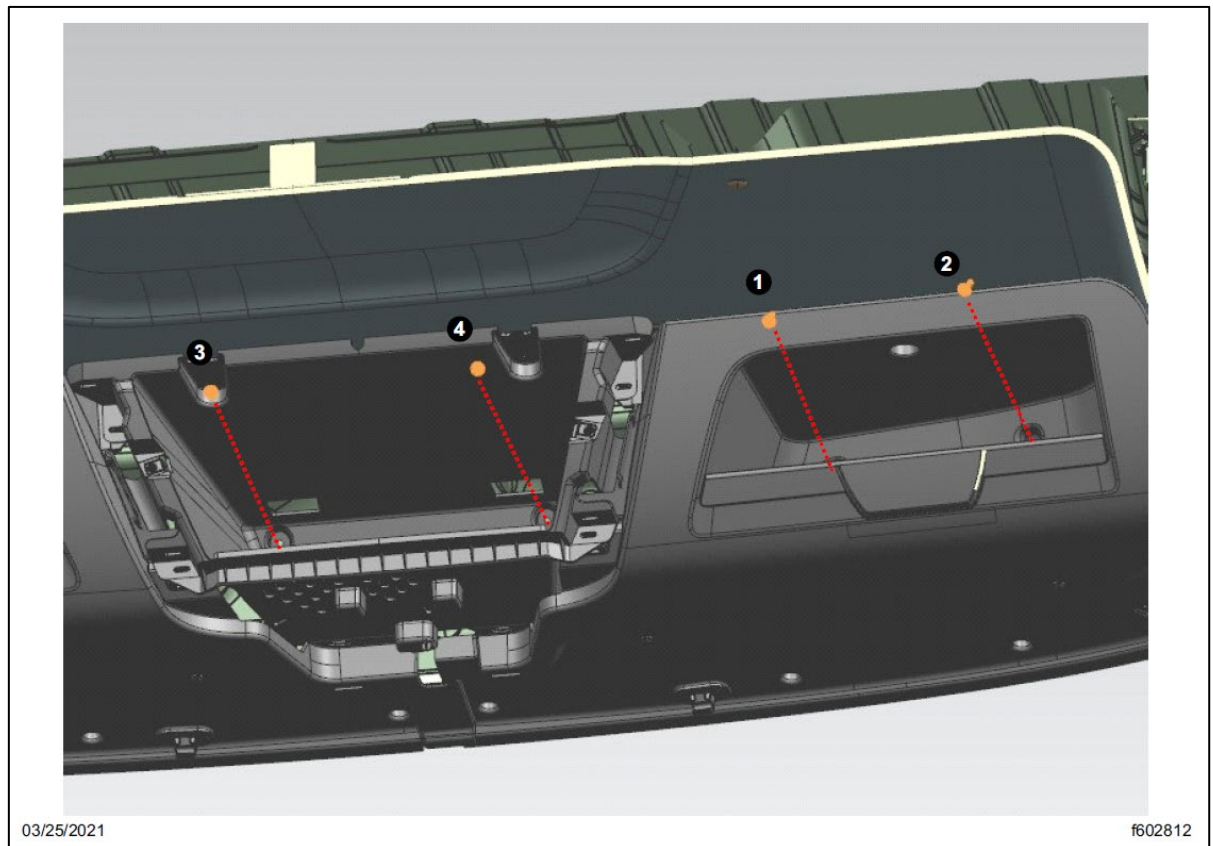

Fig. 29, Install Fasteners That Attach the Center Storage Bin and the RH Side Overhead Storage Assembly to the Cab Roof
- 7.4. Install the fasteners that attach the center storage bin and the RH side overhead storage assembly to the cab roof. Tighten the fasteners 11 to 13 lbf.ft (14 to 18 N.m) as per the sequence shown in Fig. 29.